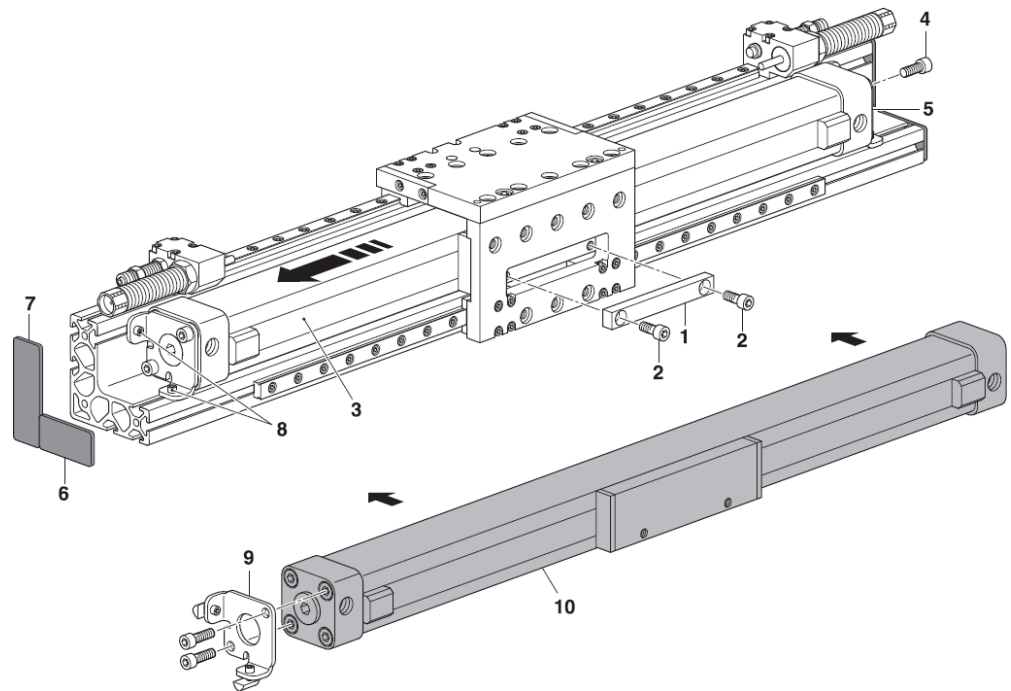

Fig. 43 Commissioning the gantry module
2. Unscrew the cap screws (Fig. 43, 2) and remove the actuator (Fig. 43, 1).
3. Unscrew the cylinder screws (Fig. 43, 4) and detach the cylinder (Fig. 43, 3) from the base body and extend it.
4. Remove end piece (Fig. 43, 9) from old cylinder (Fig. 43, 3) and reattach to new cylinder (Fig. 43, 10).
5. Insert new cylinder (Fig. 43, 10) and fix it to the fixed end piece (Fig. 43, 5).
6. Screw the other end of the cylinder to the body using the end piece (Fig. 43, 9) and refit the actuator (Fig. 43, 1).
7. Insert the cover plates (Fig. 43, 6 +7).